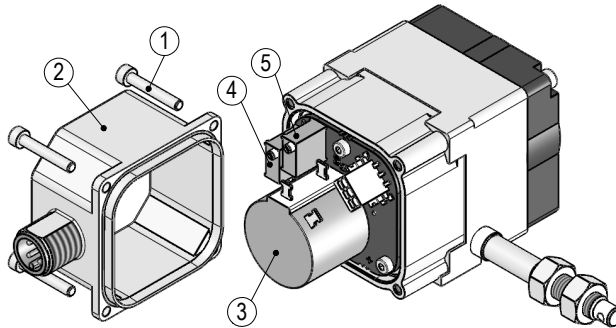

Fig. 15: Adjustment of the trimmpotentiometer 0,5/4,5V
By means of the trim potentiometer Pe ④ (see Fig. 15), this value can be adjusted to the actual final position of the application.